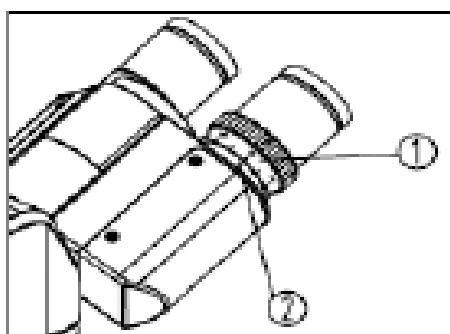

Fig. 12
Observe the right eyepiece with the right eye, focus it with the fine focus until the image is clear. Then observe the left eyepiece with the left eye, if the image is not in focus, rotate the diopter adjustment ring (1) until the image is clear (See Fig.12).
- * There are ± 5 diopters on the diopter adjustment ring (1), the value aligned with the scale (2) is your eye's diopter.